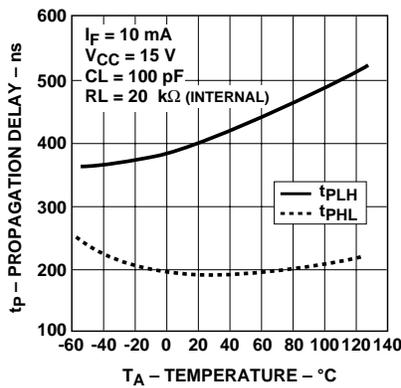

Figure 8. Propagation delay with internal 20 kΩ RL vs. temperature
- Due to the tolerance of the internal resistor, and since propagation delay is dependent on the load resistor value, performance can be improved by using an external  $20\text{ k}\Omega$  1% load resistor. For more information on how propagation delay varies with load resistance, see Figure 8.